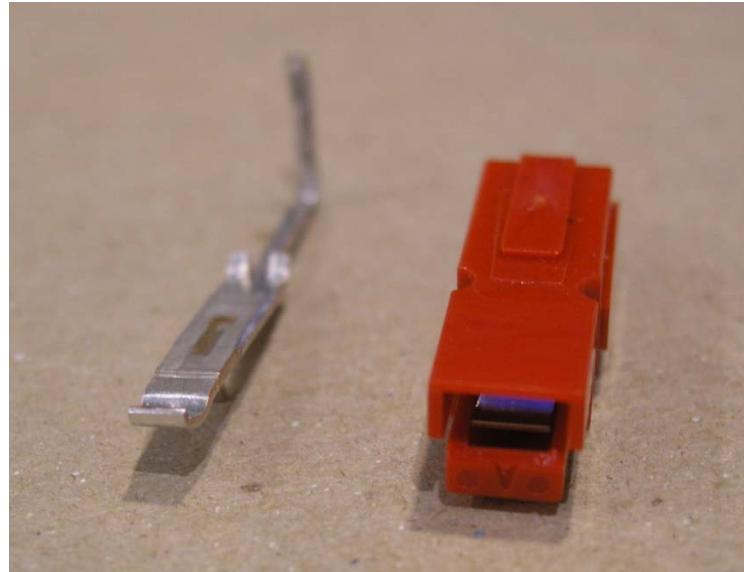
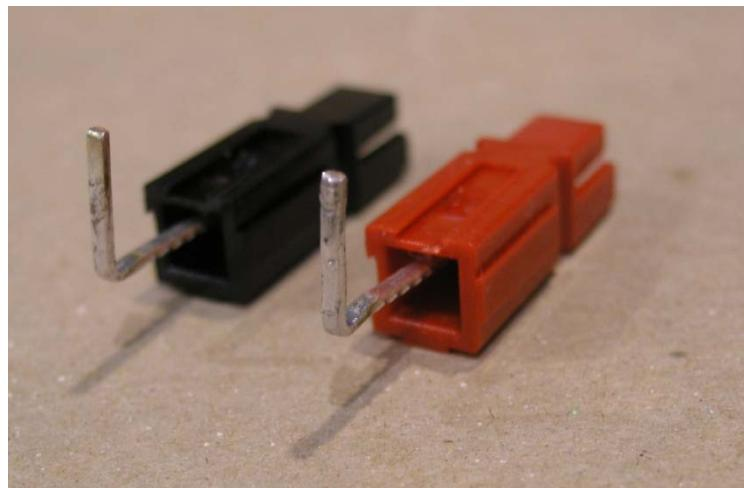

Figure 22. DC power connector body and pin
Figure 23. Rear side of DC power connectors with pins in place
9. The DC power connectors mount to the bottom of the board and consist of two halves, one black and one red. There are several steps involved in assembling and mounting these connectors, so pay close attention to the following instructions. A right-angle metal pin is used with each connector body, as shown below in Figure 22, for making an electrical connection to the PCB. The front of the connector body has a metal tab visible through the opening, as shown in Figure 22. Push the wide side of the pins into the back opening of the bodies, as shown in Figure 23, until they snap in place. The pins should protrude exactly 1 cm (.39 inches) beyond the rear end of the connector body when installed correctly. The bent end of the pins should face downward towards the PCB where they will install.